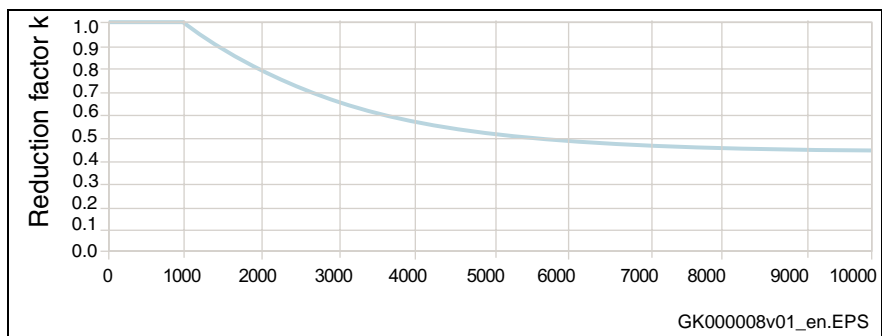

Fig. 5-3: Reducing factor at higher cycles
- The cycles of the operation modes S4 and S5 should not exceed 1,000 cycles per hour. If higher cycle rates are necessary, the GTM gearbox must be derated accordingly (see Fig. 5-3).
For more than 1,000 cycles per hour, the technical data have to be reduced by a factor (see Fig. 5-3).